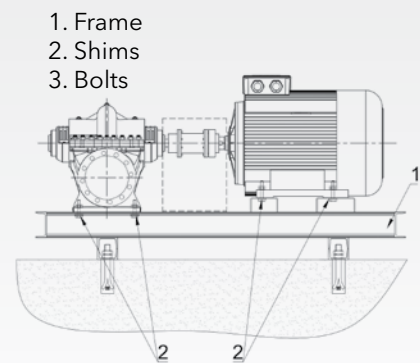

Figure 2
5. Use shims for height compensation, if necessary. Always fit shims, if any, immediately to the left and right of the foundation bolts between the baseplate/foundation. For a bolt to bolt distance (L)>800 mm, fit extra shims halfway between the bolt holes.
6. Make sure that all shims lie perfectly flush. Fig . 2
- Between pump and base frame must be an adequate shimming, so that in case of replacement the same height between bottom and centerline can be adjusted. Fig.2